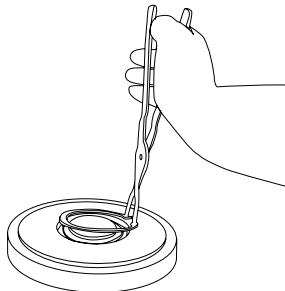

Figure 14
1. Remove the circlip [Figure 14].